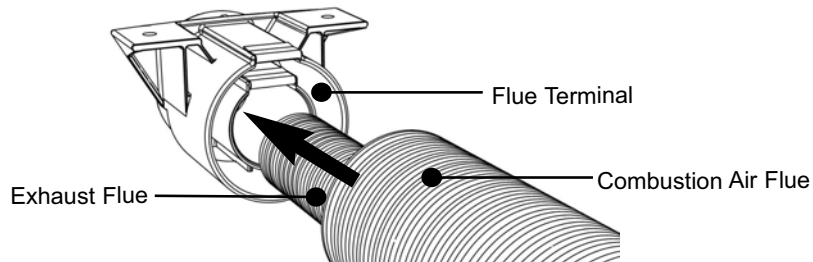

Fig. 15A Attaching Flue To Flue Terminal
- iv. Push the exhaust flue into the rear of the flue terminal (fitted to the vehicle floor) until it will go no further, approximately 50mm. The flue **must be** pushed fully home. Please see Figs. 15A, B and C.